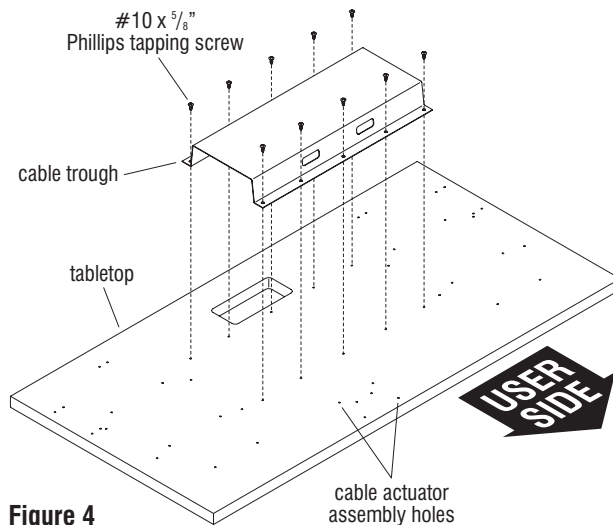

Figure 4
11. Carefully place the tabletop upside down on a soft, protective surface. Take note that the "user side" of the tabletop has pilot holes for the cable actuator assembly near the front edge, at the center (Figure 4).
12. Place the cable trough onto the tabletop with the two smaller rectangular openings in the trough facing the user side of the table. Align the cable trough mounting holes with the pre-drilled holes in the underside of the tabletop, and secure using ten #10 x 5/8" Phillips tapping screws. Do not over-tighten (Figure 4).